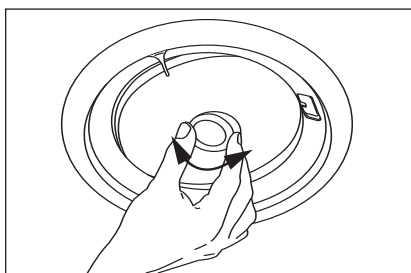

Figure 19 Directing the tweeter.
7. Direct the tweeter. The tweeter is directed by gently pushing on the edge of the tweeter housing. (**See Figure 19**). It will move 17° in any direction. For critical listening, point the tweeter to